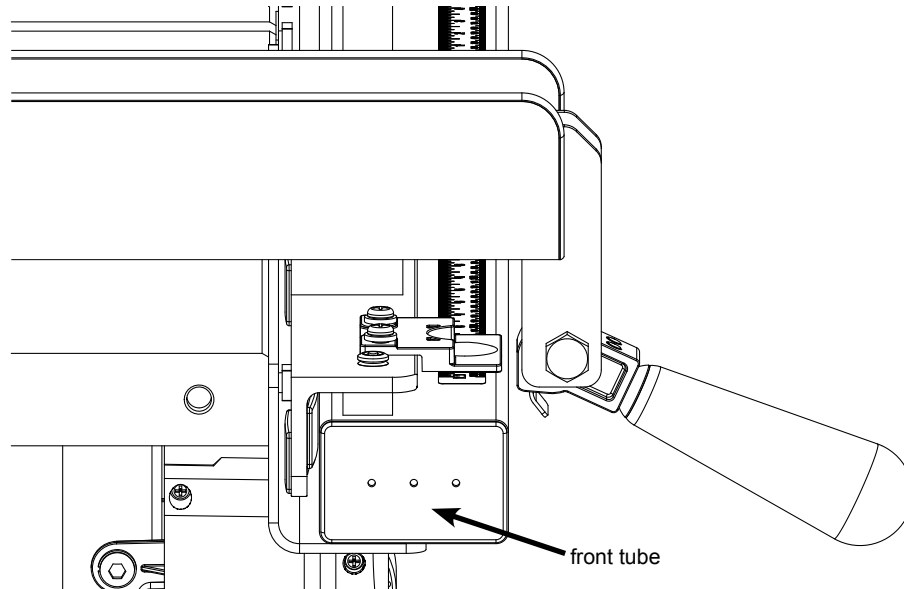

Fig. 19
19. The holes in the bottom of the front rail are oversized to allow you to adjust the position of the tube on the rail. To set the tube in the correct position, first pull the front tube away from the cast-iron table as far as possible. Next, place your fence down on the tube near the left end (see Fig. 19).